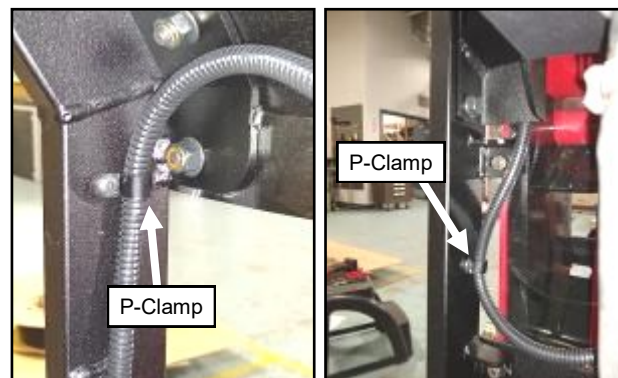

Fig. 12.4a & 12.4b (Secure Harness to Side Frame)
- 12.4** Run the wire harness over to and down the left side frame through the 11/16" hole in the cowl. Secure it in (2) places along the side frame using P-clamps and self-drilling screws. See Figures 12.4a & 12.4b.